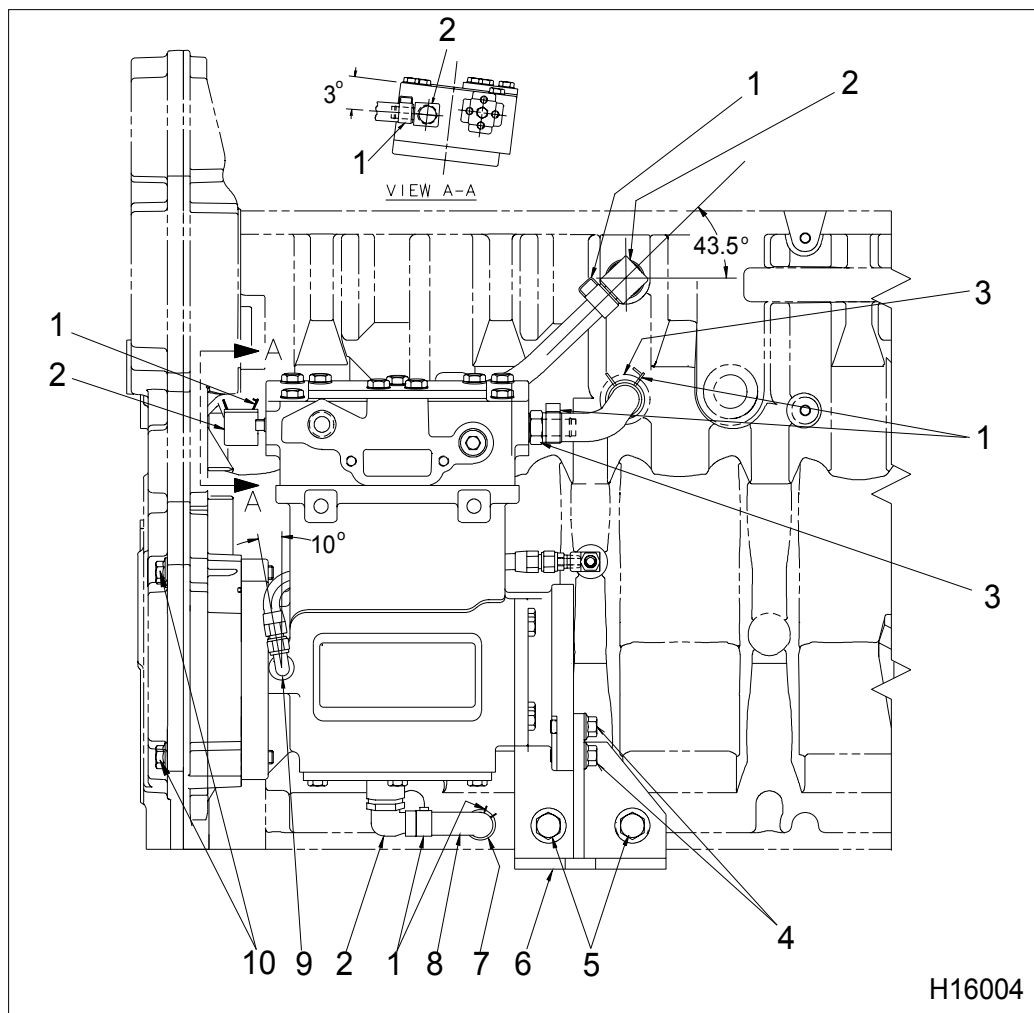

Figure 604 Air compressor mounting and connections
11. Remove remaining two bracket bolts attached to air compressor (M10 x 25) (Figure 604).
1. On work bench, loosely install air compressor support bracket assembly (Figure 604) to the air compressor with two bolts (M10 x 25). Thread finger tight but do not tighten.
7. Remove caps and install oil supply hose to elbow assembly (M10) (Figure 604). Tighten oil supply line fitting.
NOTE: If these fittings were removed from the crankcase or air compressor for any reason, they will require standard torque values (See General Torque Guidelines, page 409) and need to be oriented to the correct angle (Figure 604) upon installation.